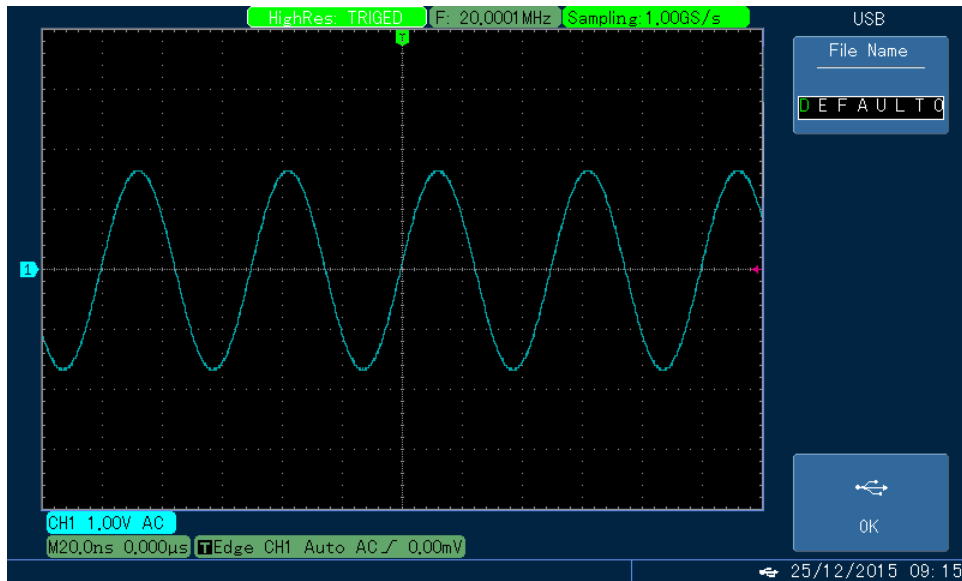

Fig. 3-14 Save Bitmap into a U-Disk
6. Press F5 key to enter into the second page of “Pass/Fail menu”. Press F2 to enter into stoppage setting menu: Press F1, F2 key to set stoppage type and stoppage condition. Then set the threshold value using “MULTIPURPOSE” knob. Once complete the setting. Press F5 to return to the “Pass/Fail” menu, as shown in Fig. 3-14.